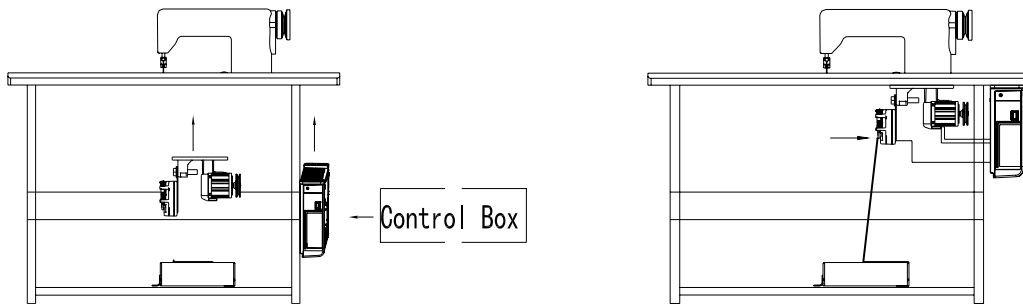

Fig. 2-2
Step 2: Install the motor (see Fig.2-2) and then tighten the lifting bracket.